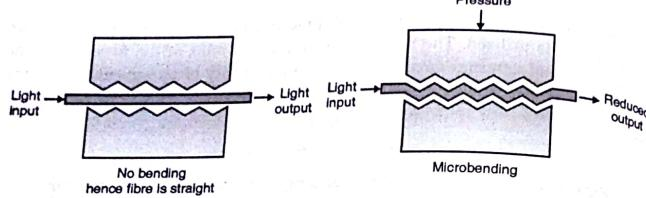

Fig. 5.10.3
- The measurement and calibration of this output power provides the amount of pressure acted over the fibre. The process is explained in the Fig. 5.10.3.